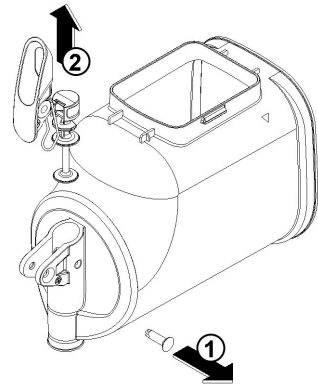

figure 8
5 Disassemble the tap in the order shown (see figure 8).
- 3** Reassemble the tap on the container following the disassembly procedure in reverse (see figure 8)